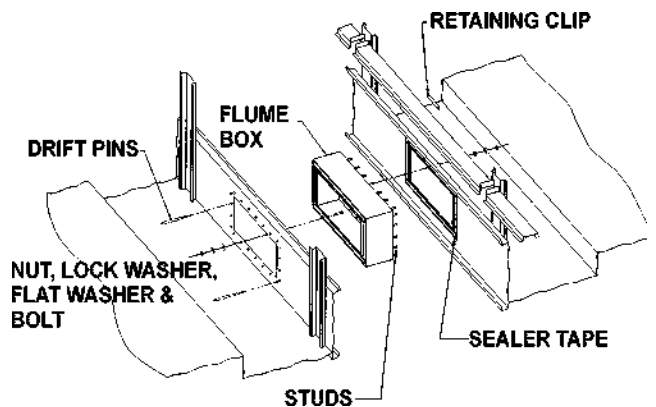

Figure 3 - Flume Assembly
2. Mating flanges which will make contact with others should be cleaned to remove dirt, grease and moisture. Apply a layer of sealer tape on one side panel centered over the flume box holes as shown in Figure 3. Remove paper backing strip from the sealer tape.
6. Align the bolt holes in the equalizer flume and equalizer opening with drift pins while drawing the second bottom section against the first as shown in Figure 3.
10. Place the drip channel assembly over the adjoining pan section flanges. Turn around the retaining clips and reinstall using the same hardware. See Figures 3 and 4.